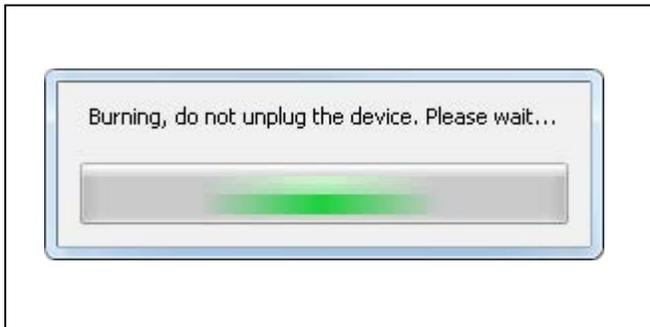

Figure 33. Waiting Bar
- 4) Click the **Upgrade** button to start the uploading. During the upgrading, a “waiting” bar is shown (Figure 33). Wait until this bar disappears.